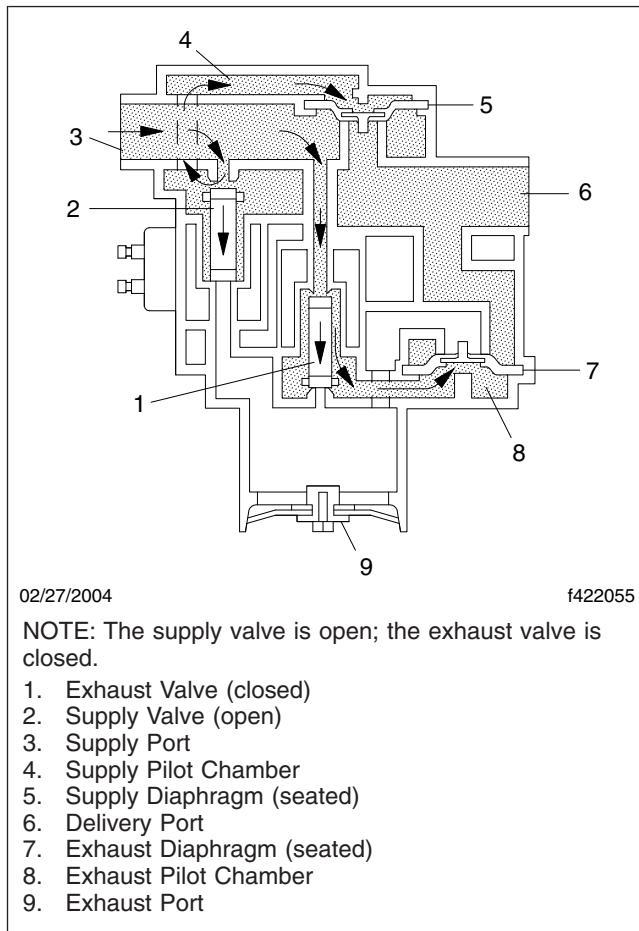

Fig. 7, Modulator Valve, Brake Hold Control
- When enough air is released through the exhaust port to stop the wheel from locking (ABS brake release), the exhaust valve is closed and air pressure is allowed to flow into the exhaust pilot chamber. See Fig. 7.